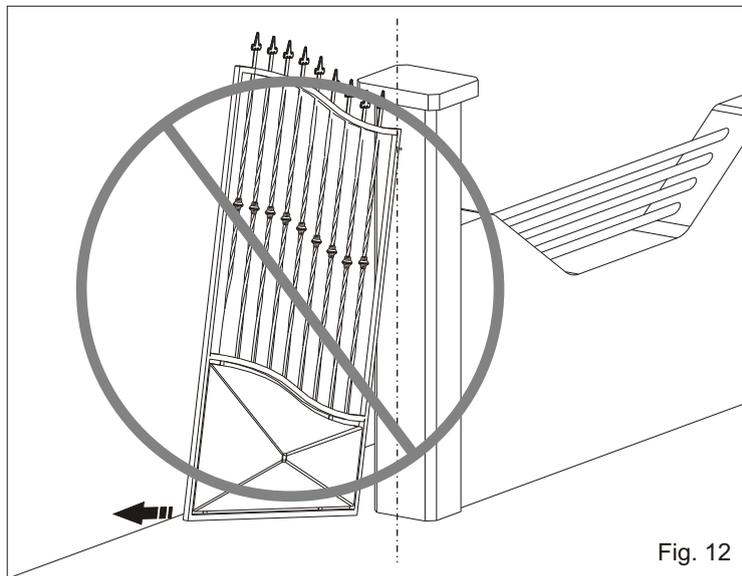
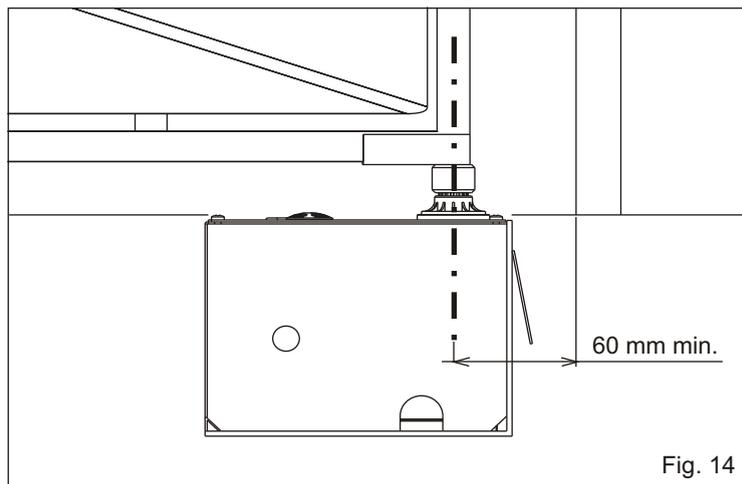

Fig. 12
Fig. 14
3.8. Be careful not to place the leaf outside the axis (Fig. 12 and 13), but make sure the shaft corresponds to the hinge rotation axis remembering that the minimum distance from the pillar is 60 mm (Fig. 14).